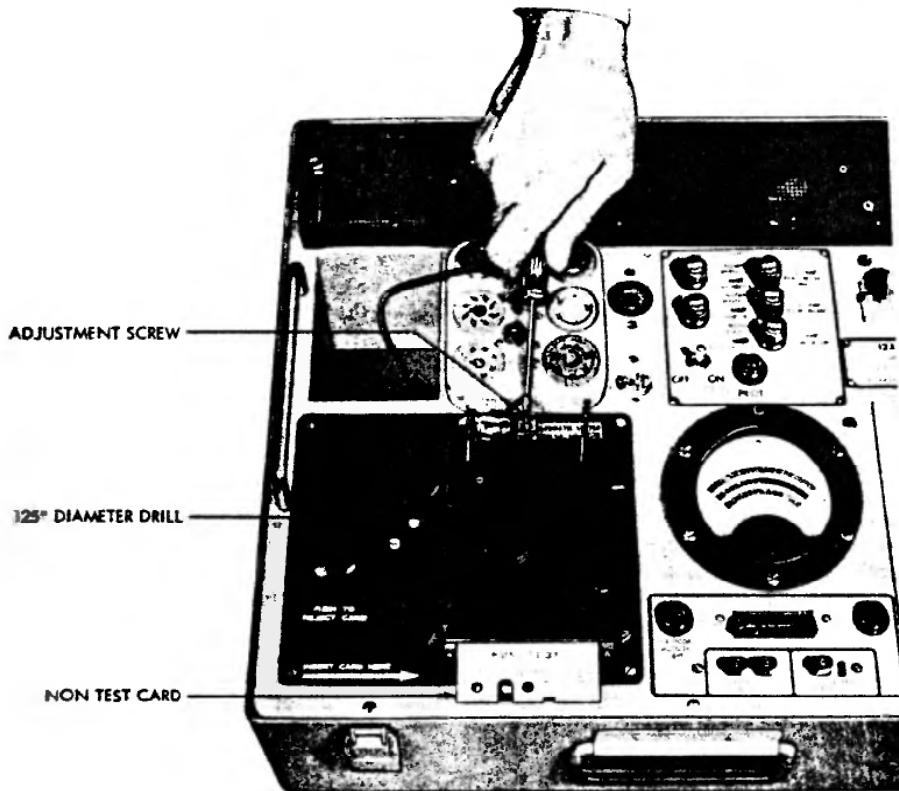

Figure 17 - Adjustment of Upper Micro Switch
4. Adjust the micro switch inward (toward the card switch) with the adjustment screw (see Figure 17) until the micro switch actuates (an audible CLICK can be heard).